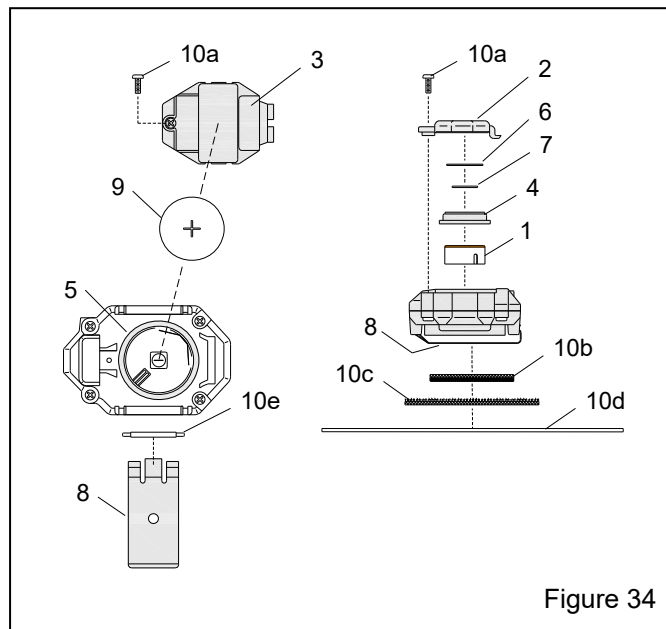

Figure 34
Included with kit 29870, shown in Figure 34
Included with kit 29870, shown in Figure 34.
8.2 Monitor Replacement Parts – Figure 34